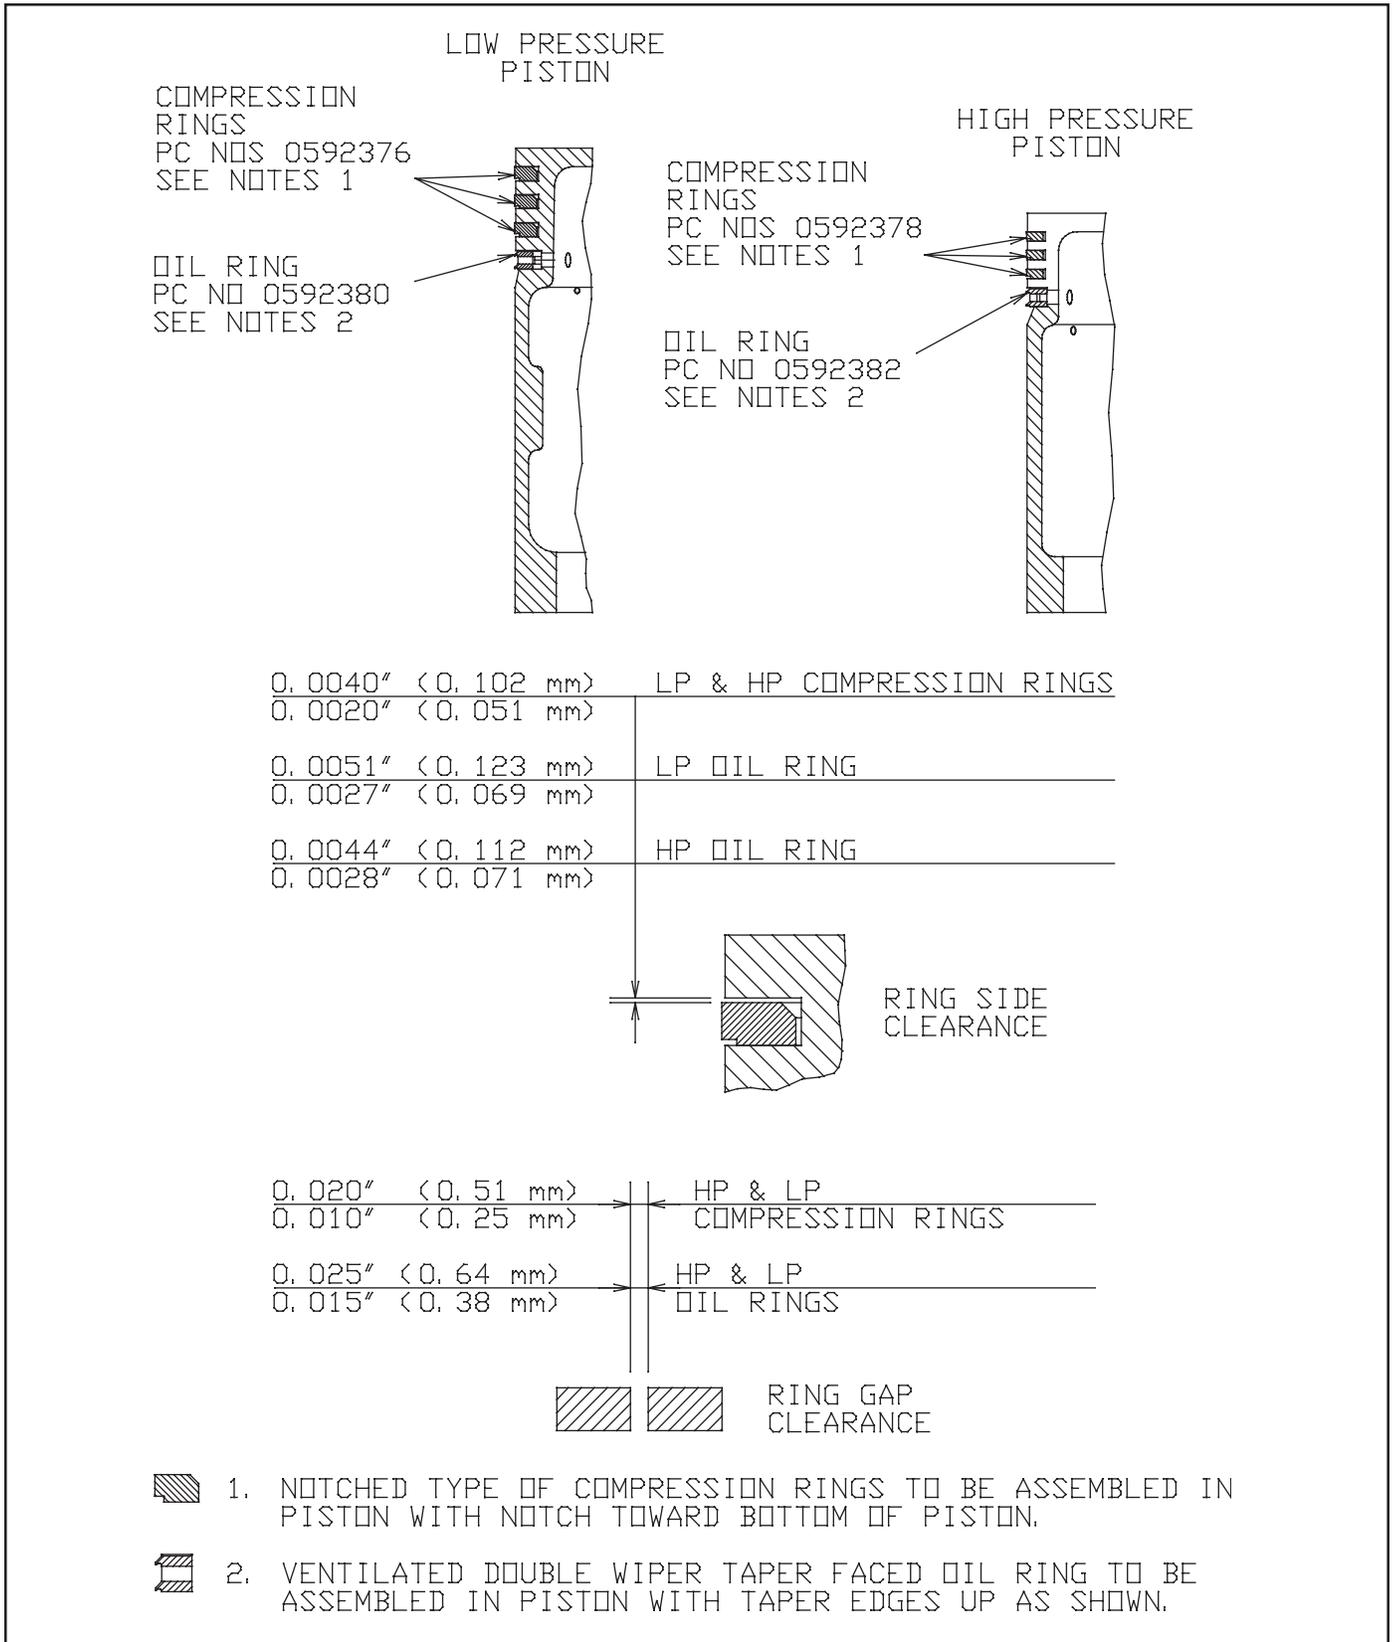

Figure 11 - Piston Ring Identification & Installation Instructions
Reference Figure 11
14.3.2 The rings should be expanded just enough to clear the piston. Care must be exercised when installing the piston rings to prevent breakage or distortion. The position of the piston rings is shown in Figure 11. Consult your Wabtec Corporation Representative for information on the correct piston rings for specific applications.